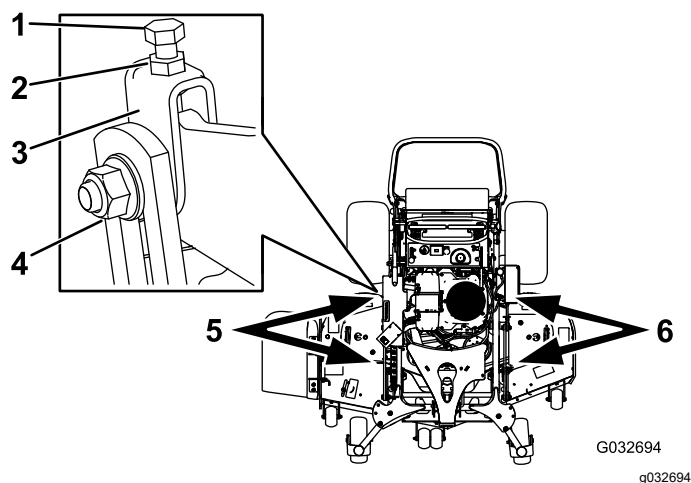

Figure 92
1. Loosen the side nut and jam nut in the yokes you want to adjust (Figure 92).
2. Rotate the top bolt of the yokes to adjust the height of the mower deck (Figure 92).